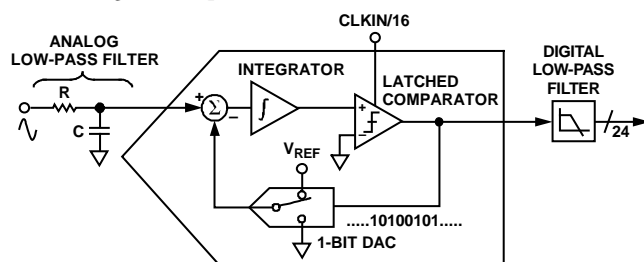
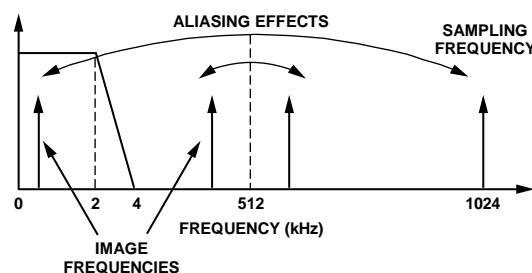

Figure 31. First-Order $\Sigma\text{-}\Delta$ ADC
Figure 33. Aliasing Effects
For simplicity, the block diagram in Figure 31 shows a first-order Σ - Δ ADC. The converter is composed of the Σ - Δ modulator and the digital low-pass filter.
Figure 31 shows an analog low-pass filter (RC) on the input to the ADC. This filter is placed outside the ADE7854A/ADE7858A/ADE7868A/ADE7878A; its role is to prevent aliasing. Aliasing is an artifact of all sampled systems, as shown in Figure 33. Aliasing means that frequency components in the input signal to the ADC, which are higher than half the sampling rate of the ADC, appear in the sampled signal at a frequency below half the sampling rate. Frequency components above half the sampling frequency (also known as the Nyquist frequency, that is, 512 kHz) are imaged or folded back down below 512 kHz. This happens with all ADCs regardless of the architecture. In the example shown, only frequencies near the sampling frequency, that is, 1.024 MHz, move into